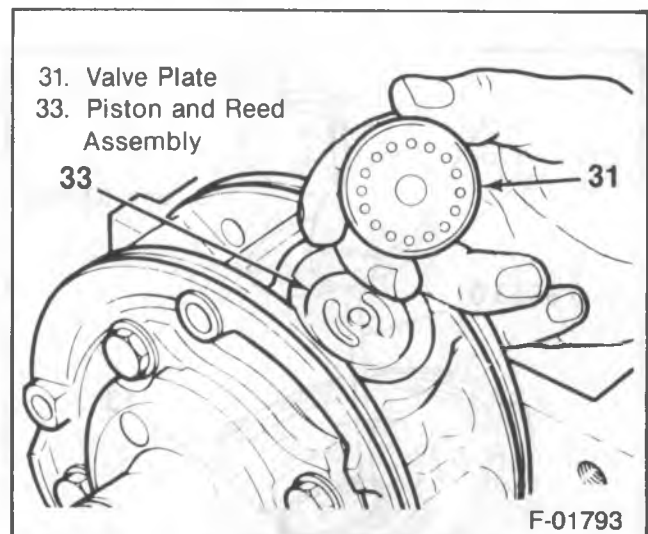

Figure 23—Replacing the Discharge Plate
2. Discharge valve plates (figure 23).
2. The discharge valve plates (figure 23).